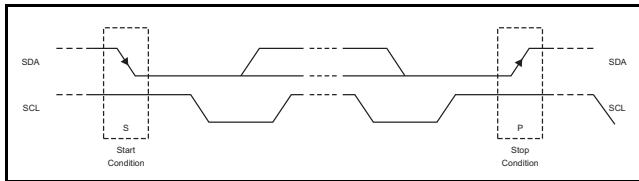

Figure 89. Start and Stop Conditions
- To signal the end of the data transfer, the master generates a *stop condition* by pulling the SDA line from low to high while the SCL line is high (see Figure 89). This action releases the bus and stops the communication link with the addressed slave. All I²C-compatible devices recognize the stop condition. Upon receipt of a *stop condition*, the bus is released, and all slave devices then wait for a *start condition* followed by a matching address.